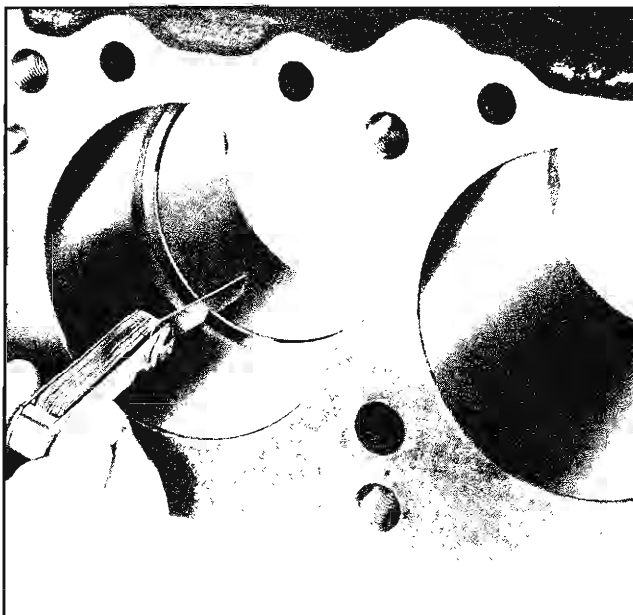

Fig. 6-67 Checking Ring Cap
3. Measure gap between ends of ring with feeler gauge (Fig. 6-67). Gaps should be as follows: